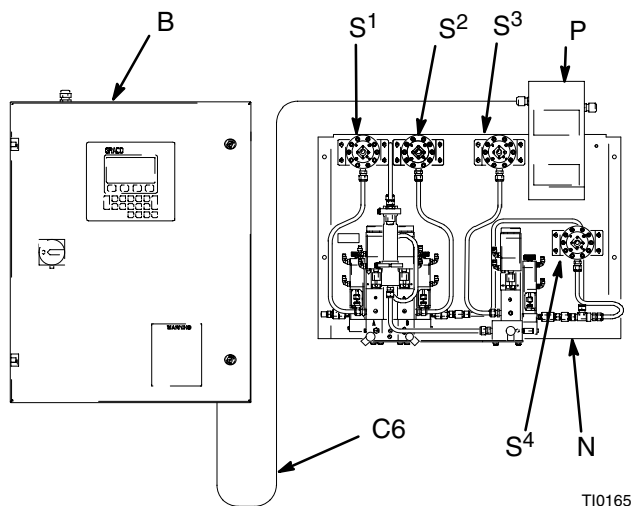

Fig. 3.9
1. 50 ft. (15.2 m) of cable (C6) is supplied, connecting the fluid panel solenoid box (P) and the PrecisionMix II 3K controller (B). See Fig. 3.9.